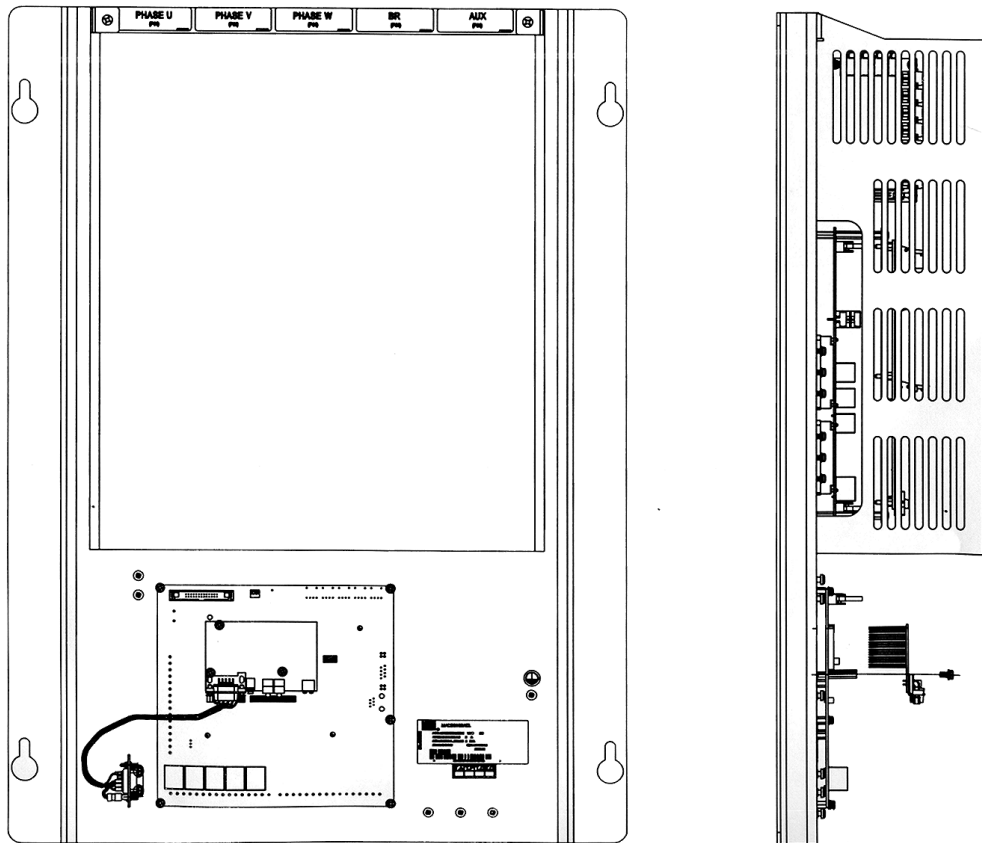

Figure 13.3: Connection to the Fieldbus board
6. Connect one end of the Fieldbus cable to the MVW-01 control rack, according to the Figure 13.3 on page 13-2.
7. Connect the other end of the Fieldbus cable to the Fieldbus board, according to the Figure 13.3 on page 13-2.